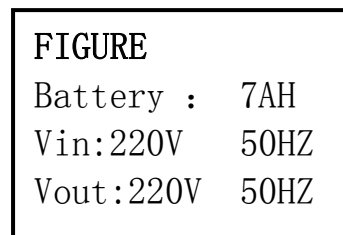

Fig.2: Basic status interface
- 2) Press ESC/ ◀ or ▶ button, it will change to the basic status interface , see Fig2 below